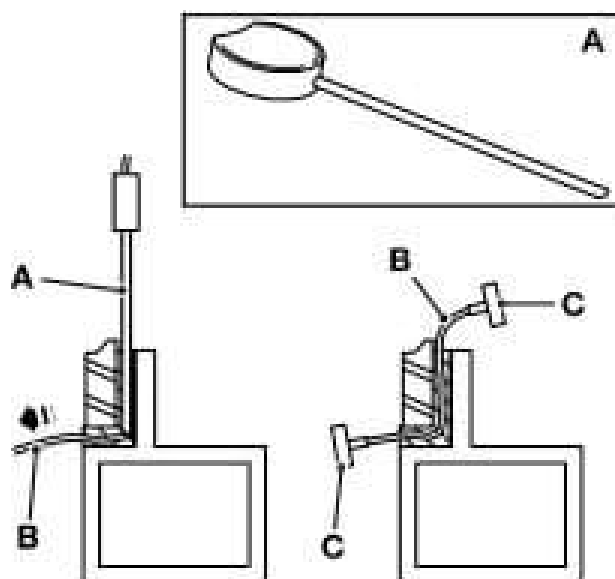

Fig 6. Braided Cutting Wire and Handles
- b Braided Cutting Wire and Handles. ➔ Fig 6. (D B-4). This method uses a 3-core wire, a wire starter tube and two handles.